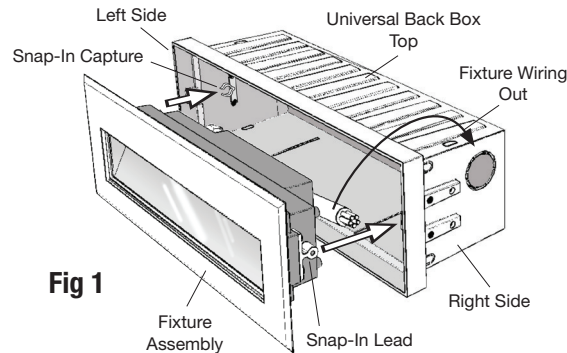

Fig 1
1. Install (2) slotted Masonry Mounting Brackets onto each side of the Back Box using (4) 6-32 adjustment screws provided. **Orient Back Box as shown. Fig 1**
1. Install the (2) Threaded Rods provided in through the Splatter Shield and into the Back Box as shown. **Fig 1**
- To finish step light installation, remove the Splatter Shield and all contents from the Back Box. Complete all wiring in the Back Box, then snap the fixture assembly into the back box using the Snap-In Captures & Leads. **Fig 1**